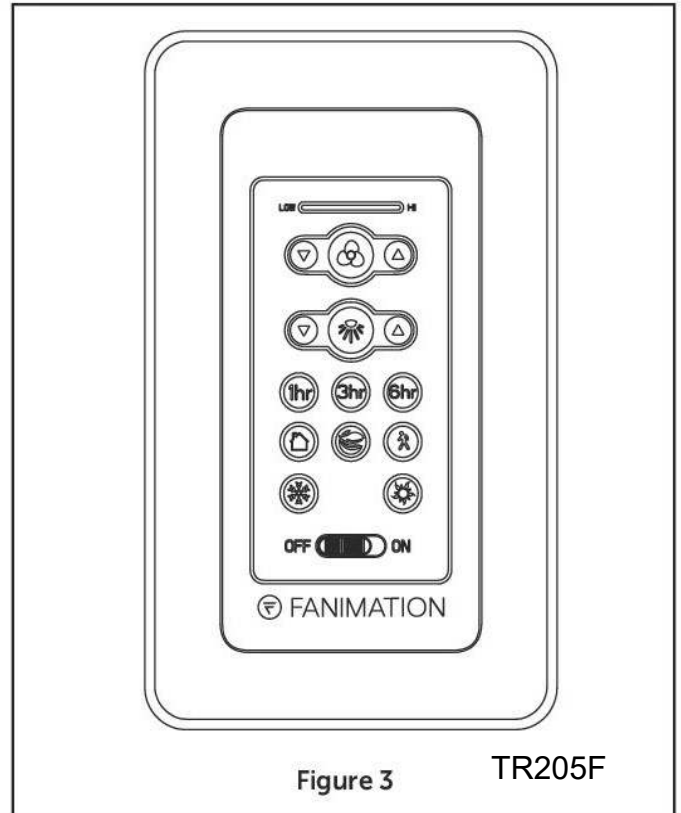

Figure 3
□ 3. Remote functions: (Figure 3)